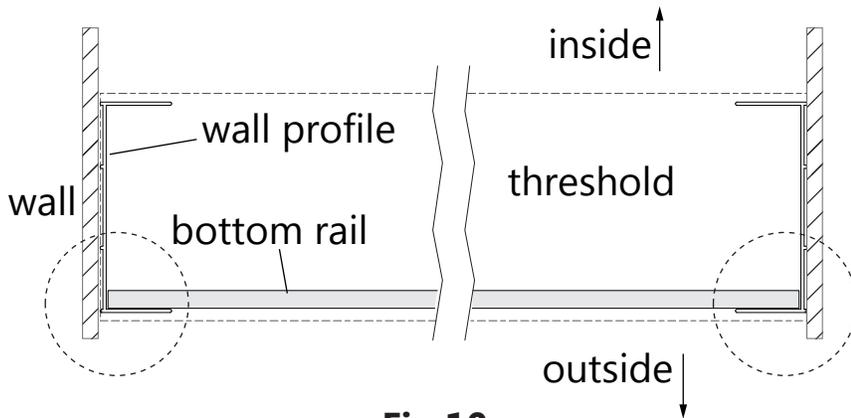
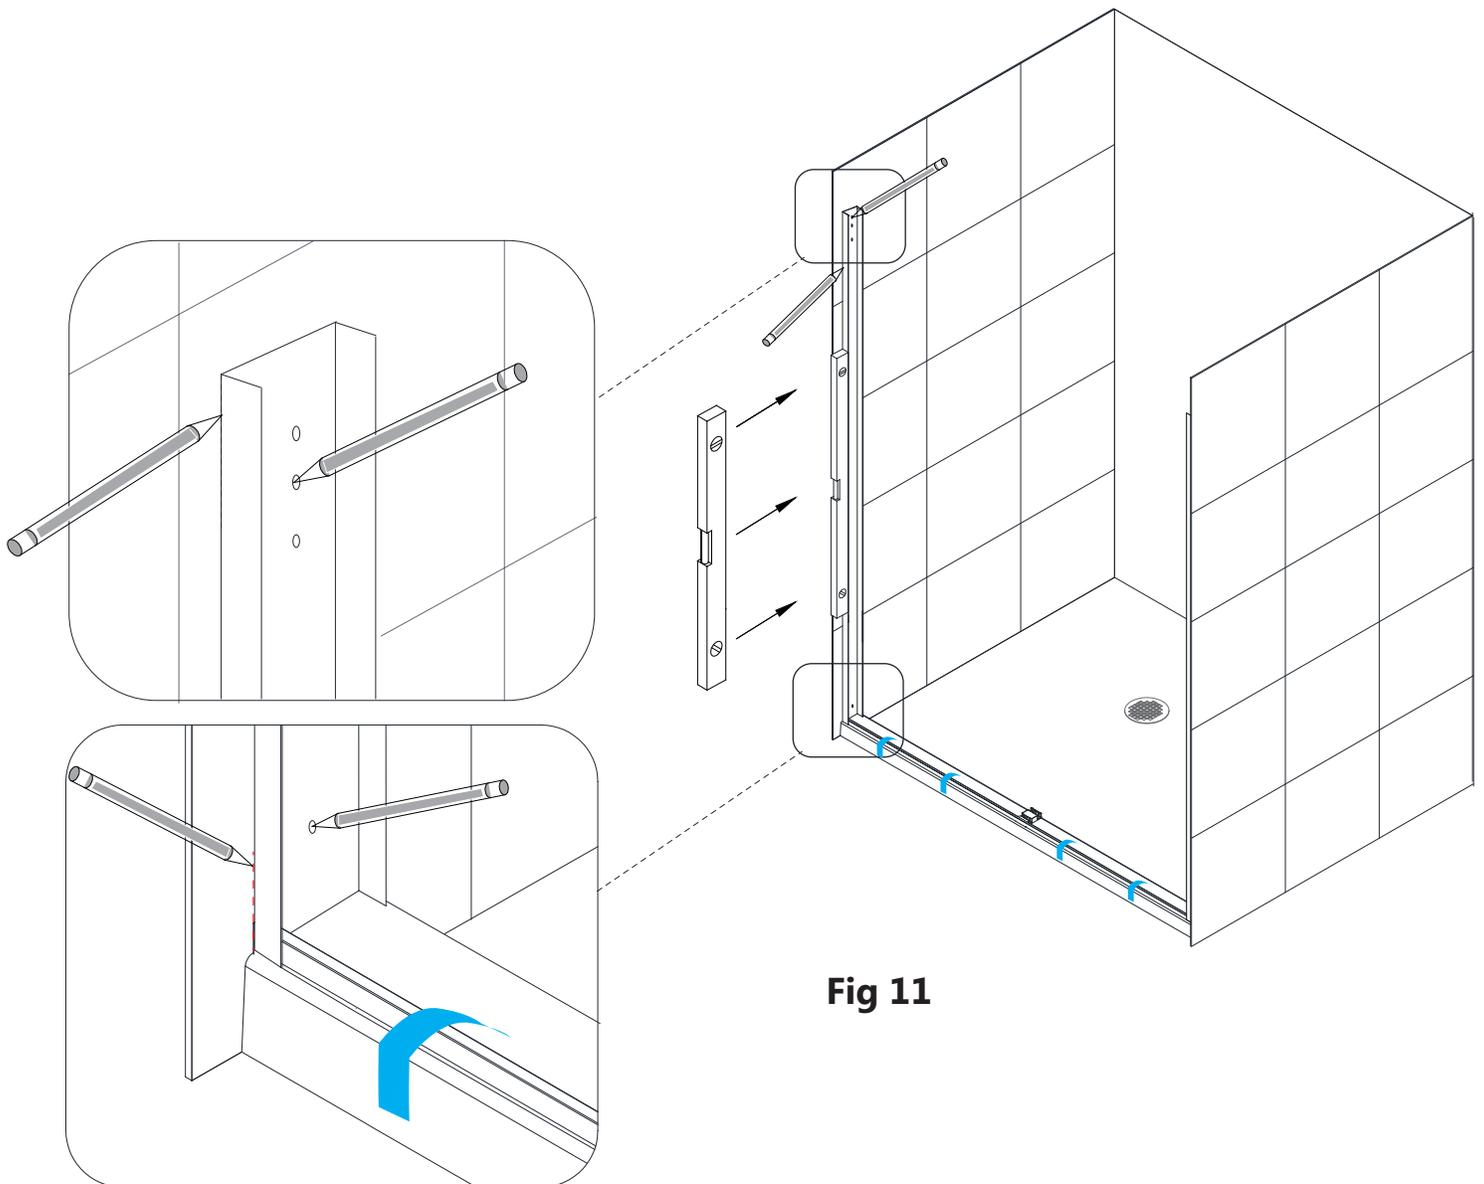

Fig 10
Fig 11
9. Position one of the **Wall Profiles (#19)** on the wall, over the outside edge of the **Anti-Splash Threshold (#21)** (see overhead Fig 10). Check for plumb with a level and mark the position of the **Wall Profile (#19)** and the holes for drilling on the wall. (**Fig 10 and Fig 11**)